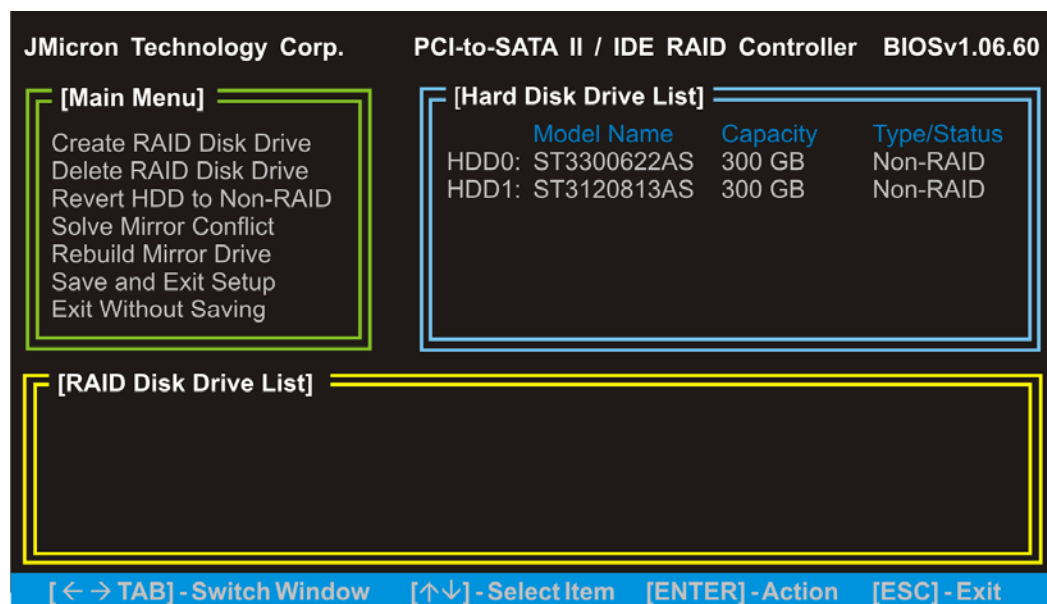

Figure D-2: Enter the RAID Setup Utility
Step 3: The main RAID Setup Utility menu opens (**Figure D-2**). To move from one window to another, press the **Tab** key. Below is a brief description of each window.